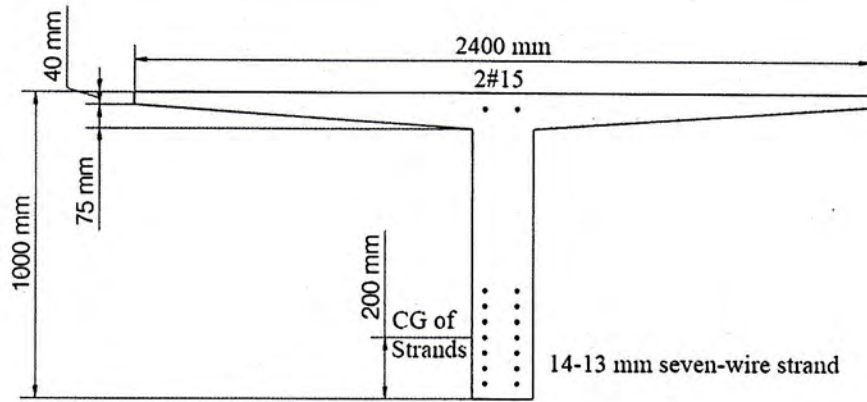

Fig. 1
- (b) The cross section of a precast pretensioned single-tee beam is shown in **Fig. 1**. The beam is simply supported and having a span of 25 m. The low-relaxation prestressing strands were tensioned to a stress of 1400 MPa in the pretensioning bed, prior to casting of the concrete. The strands have constant eccentricity along the span of the beam. Compute the camber at mid-span before the application of live load and long term deflection (final) under the effect of a concentrated live load of 60 kN at mid-span of the beam. Use the multipliers of PCI design handbook. 17